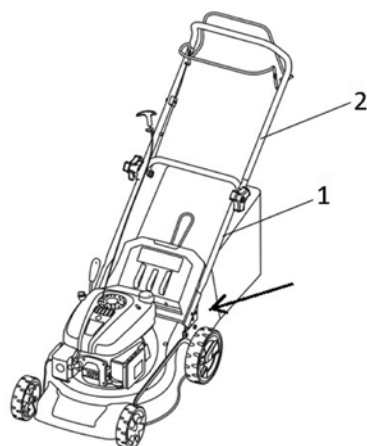

Fig. 2
1. Insert the bottom part of the handle (Fig. 2 – point 1) into the respective holes on the lawnmower (see arrow) and secure in place with the supplied wing nut bolts.
2. Attach the top part of the handle to the bottom part of the handle using the included screws with the quick coupler and wing nuts (Fig.2 – point 3).